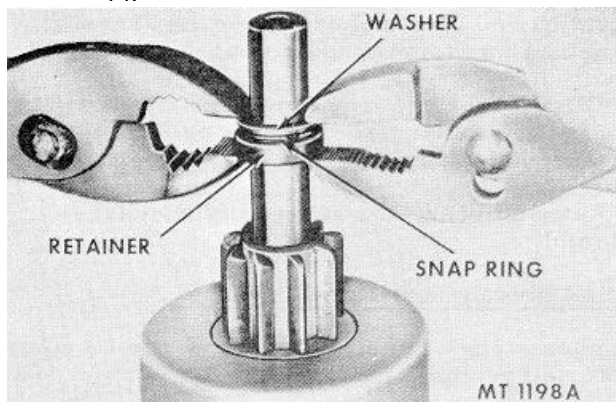

Fig. 14. Installation of Retainer
- c. To force the retainer over the snap ring, place a suitable washer over the shaft and squeeze the retainer and washer together with pliers, Fig. 14.